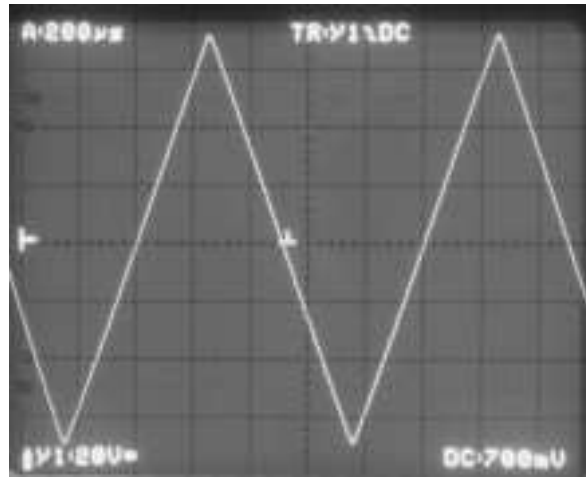

Figure 8. Triangle wave 150Vpp 1kHz
- Triangle & sine response (Fig. 8, 9)